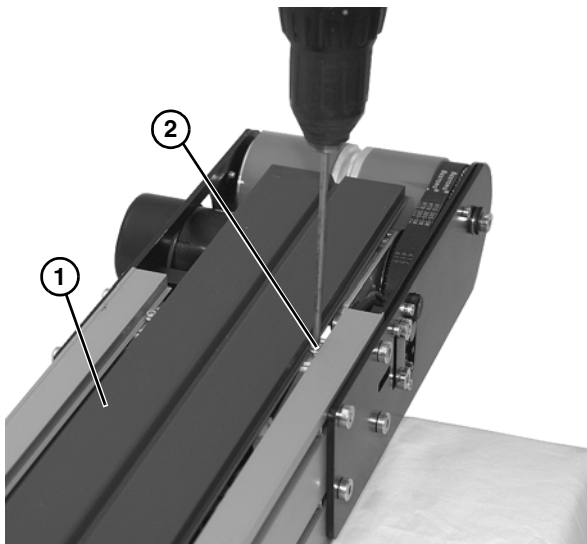

Figure 53
- Remove wear plate (**Figure 53, item 1**) by removing plate fastening screws (**Figure 53, item 2**) on each side and end of conveyor